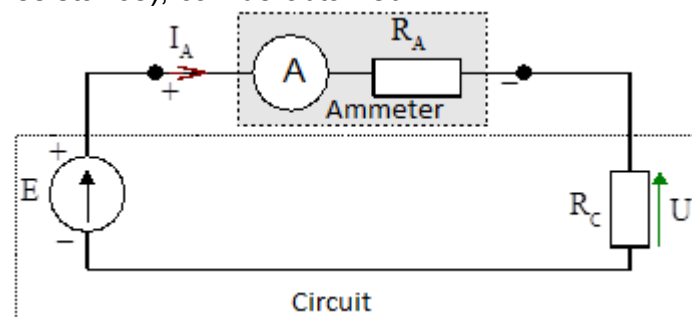

Fig. 2. An equivalent circuit for direct current measurement with components influencing measurement.
Using the Thevenin equivalent for the circuit under the test (a current source) and the equivalent circuit of a real ammeter, a more detailed circuit (Fig. 2.), consisting of ideal components presenting the measured value (I_x), a meter (A) and parameters influencing measurement (R_c – internal or equivalent circuit resistance and R_A – internal ammeter resistance), can be obtained.